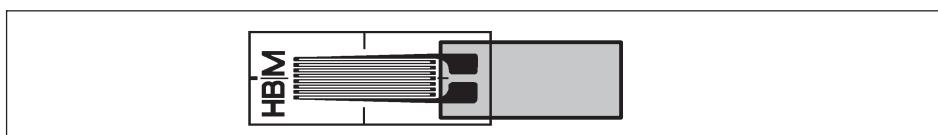

Fig. 5.3 Hinge-like connection for SG without lead
- ▶ In SG without leads, create a hinge-like connection as shown in *Fig. 5.3* (without additional solder terminals).